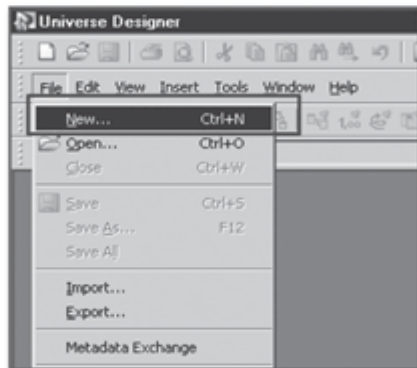

Figure 13.4 Create a New Universe
2. Upon successful login, follow the menu path **FILE • NEW** to create a new universe (Figure 13.4). The next screen asks for universe parameters.